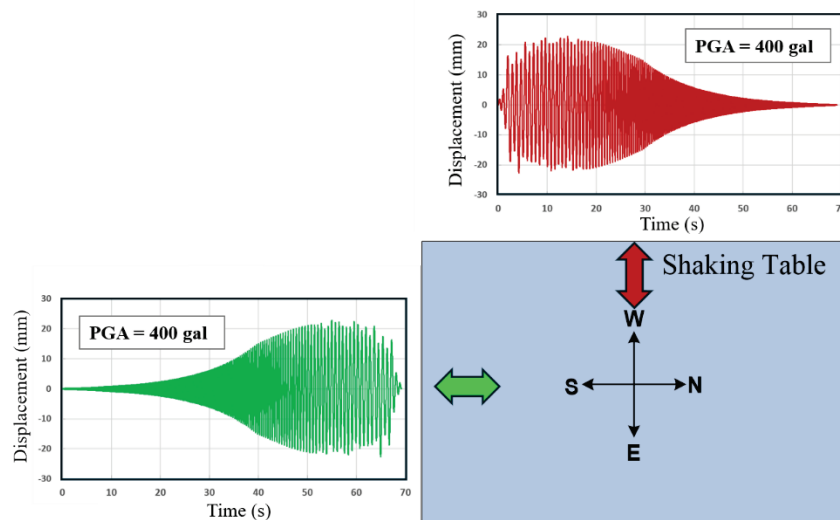

Figure 6. The E-W and N-S components of displacement time histories of the artificial earthquake with the PGA equal to 400 gal
8.6 Figure 6 shows the two components of the displacement time histories of the artificial earthquake with a PGA of 400 gal.